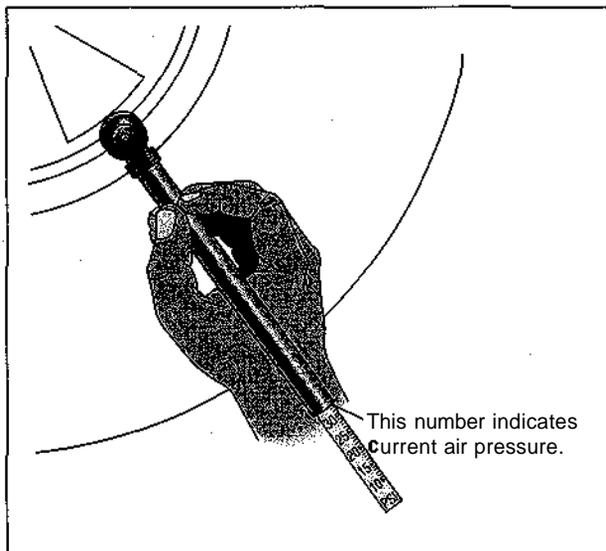

Figure 19-2:
Figure 19-2 shows you what a tire gauge looks like. I show you how to use one a little later in this section.
4. Place the open, rounded end of the tire gauge against the valve so that the little pin in the gauge contacts the pin in the valve (see Figure 19-2).
The last number is the amount of air pressure in your tire, as shown in Figure 19-2. Does the gauge indicate the proper amount of pressure recommended on the decal?